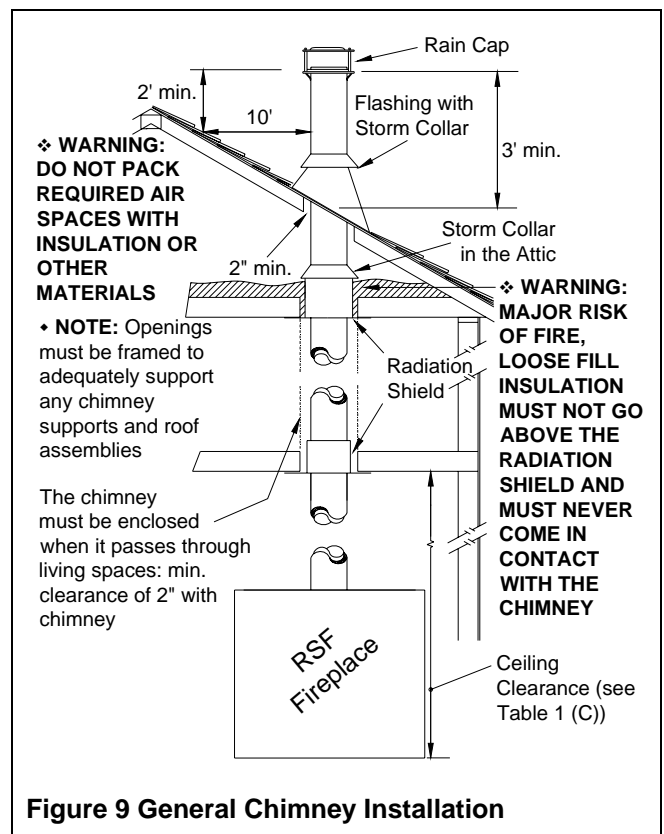

Figure 9 General Chimney Installation
2. From below, install a radiation shield in each floor through which the chimney passes. At the attic level, install a radiation shield and a storm collar as shown in Figure 9.